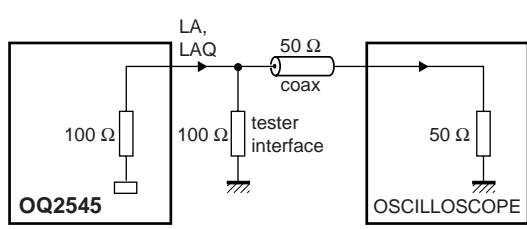

Fig.11 Set-up for electrical measurement of RF parameters.
13. Values are measured electrically and unfiltered (see Fig.11):